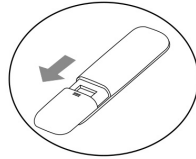

Fig.1
- Open the battery compartment by sliding the door outwards (see the direction of the arrow in fig.1).